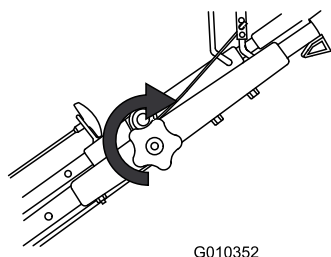

Figure 17
3. Tighten the upper handle knob as tight as you can (Figure 17).